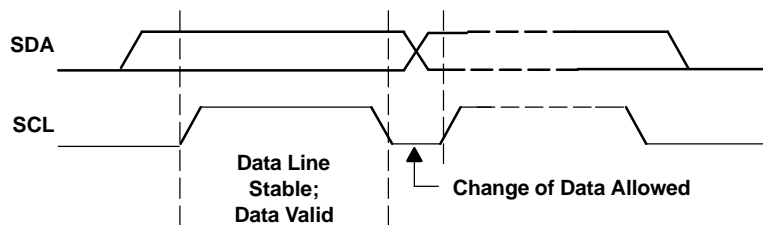

Figure 42. Bit Transfer on the I²C Bus
- Data is transmitted over the serial bus in sequences of nine clock cycles (8 data bits followed by an acknowledge bit). The transitions on the SDA line must occur during the low period of SCL and remain stable during the high period of SCL (see Figure 42).